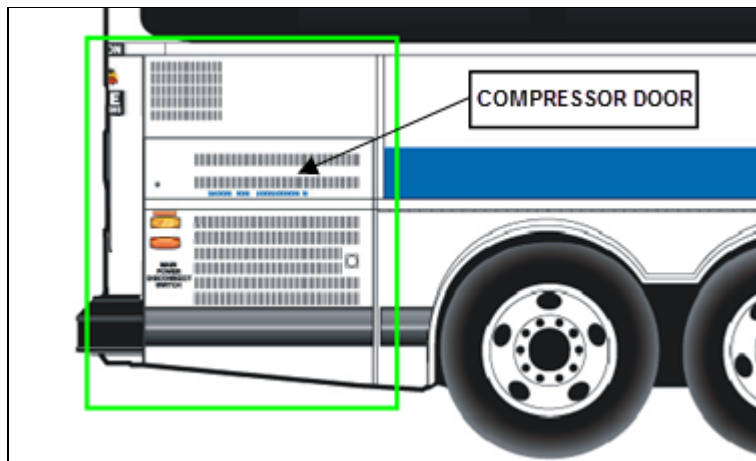

FIG.9 VEHICLE COMPRESSOR DOOR
1. Fully open the vehicle compressor door (rear, curb side of vehicle Fig.9).